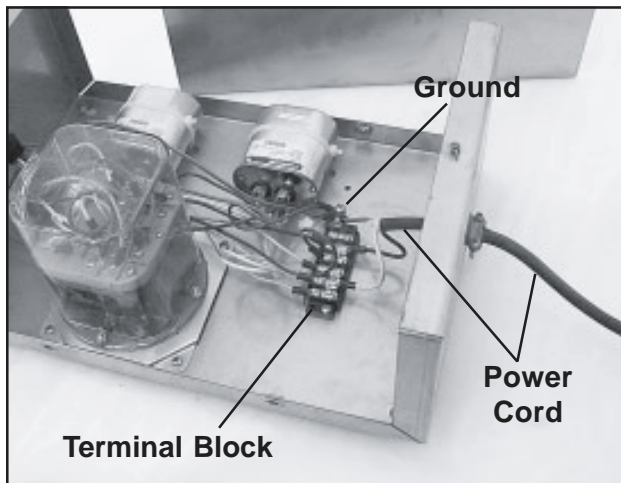

Figure 122. Power Cord Connections Inside Electrical Box
7. With a Phillips screwdriver, remove the black and white wires from the terminal block inside the electrical box (Figure 122)